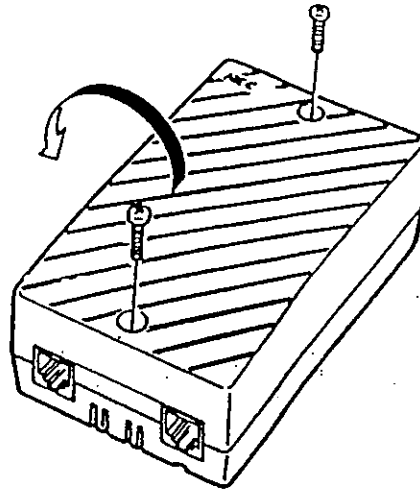

Figure 1-54 Removing the Screws from the Cover of the SLT-F(1G)-13 ADP
1. Open the unit by removing the two screws from the top of the SLT-F(1G)-13 ADP. (Refer to Figure 1-54 - Removing the Screws from the Cover of the SLT-F(1G)-13 ADP.)